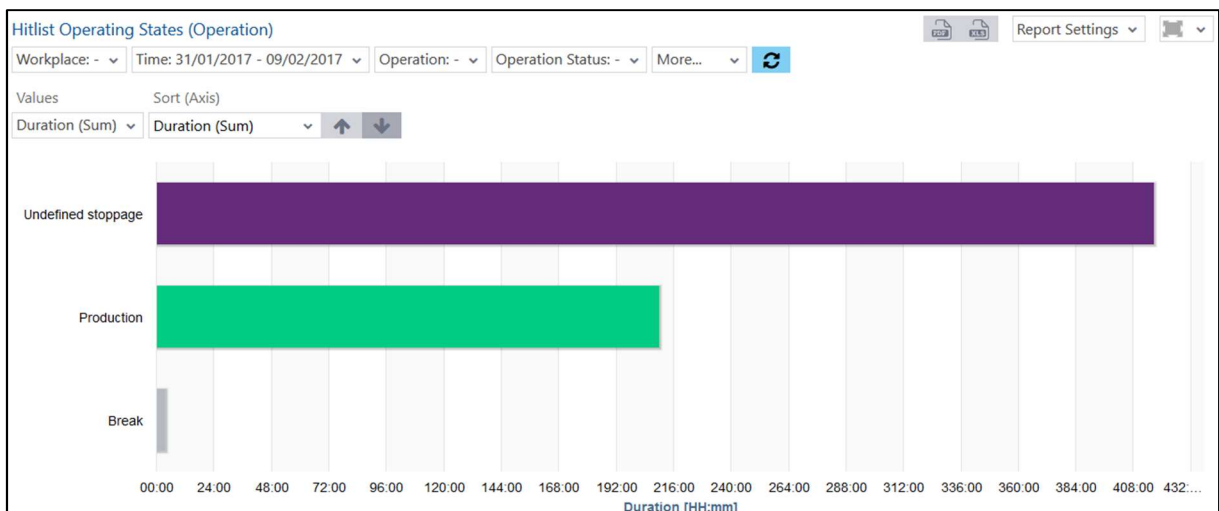

Fig. 85: Hitlist Operating States (Operation) as a bar chart
- Hitlist Operating States (Operation) as a bar chart (Fig. 85):